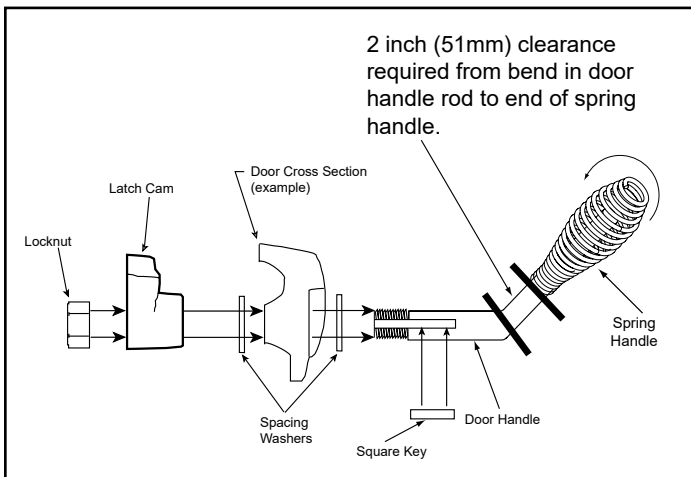

Figure 24.1
3. Install second washer(s) as shown in **Figure 24.1**.
7. Install spring handle turning in a counter-clockwise motion to **required** 2 inch (51mm) clearance location on door handle rod (Figure 24.1).